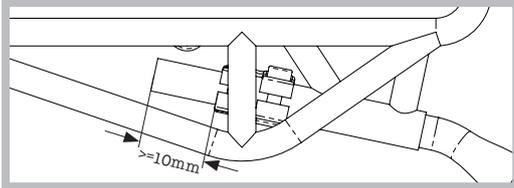

Figure 13
8. Lightly grease the upper rack stays and slide them into upper stay carrier. Extend upper stay through the clamp leaving a minimum of 10mm exposed. (See figure 13) Insertion line on upper rack stays will not be visible when installed correctly.